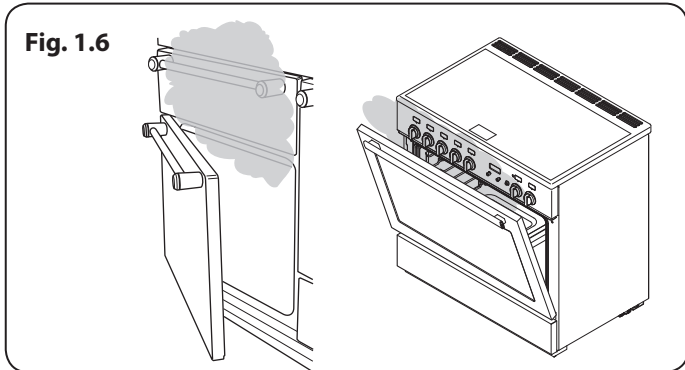

Fig. 1.6
- Cooking high moisture content foods can create a ‘steam burst’ when the oven door is opened (**Fig. 1.6**). When opening the oven, stand well back and allow any steam to disperse.